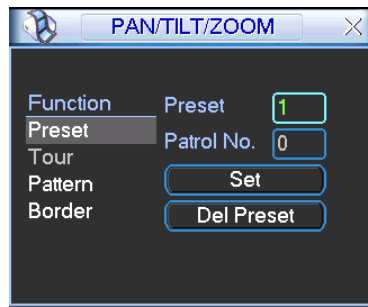
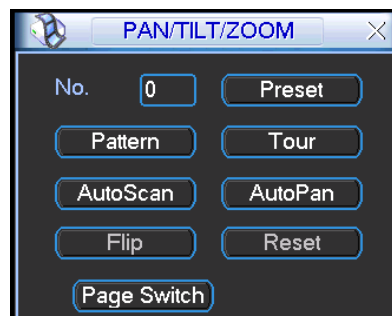
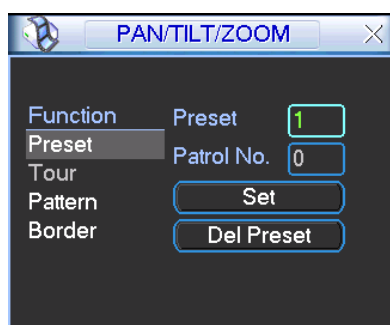

Figure 4-39
Figure 4-40
Figure 4-41
In Figure 4-36, please click the “set” button. The interface is shown as below. See Figure 4-39.
In _ Figure 4-36, click page switch button, the interface is shown as in Figure 4-40. Here you can activate the following functions:
- The following setups are usually operated in the _Figure 4-36, Figure 4-39 and Figure 4-40.
In Figure 4-39, click preset button and input preset number. The interface is shown as in Figure 4-41.
In Figure 4-40, please input preset number in the No. blank, and click preset button.
In — Figure 4-39, input patrol (tour) number in the No. blank and click patrol button
In Figure 4-39, click pattern button and then click “begin” button. The interface is shown as in Figure 4-43. Then you can go to Figure 4-36 X to modify zoom, focus, and iris.
In _ Figure 4-39, input mode value in the No. blank, and click pattern button.
In Figure 4-40, click "Auto Scan" button, the system begins auto scan. Correspondingly, the auto scan button becomes Stop button. Click stop button to terminate scan operation.
In Figure 4-40, click page switch button, you can see an interface is shown as below. See Figure 4-45. Here you can set auxiliary function. The aux value has relation ship with the Aux button of the decoder.